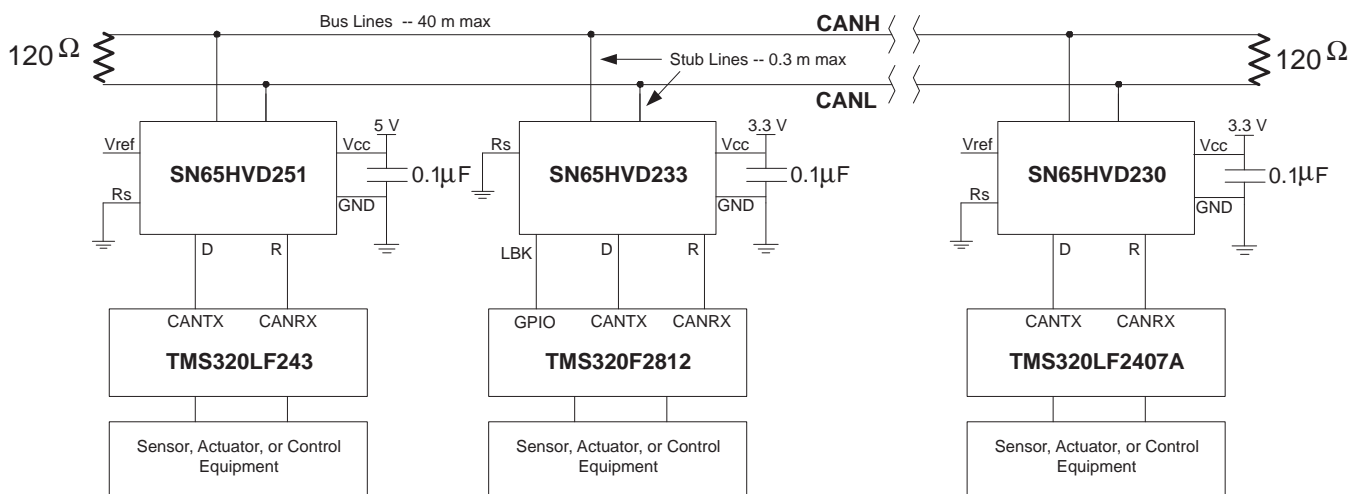

Figure 34. Typical SN65HVD233 Application
The loopback (LBK) function of the SN65HVD233 is enabled with a high-level input to pin 5. This forces the driver into a recessive state and redirects the data (D) input at pin 1 to the received-data (R) output at pin 4. This allows the host controller to input and read back a bit sequence to perform diagnostic routines without disturbing the CAN bus. A typical CAN bus application is displayed in Figure 34.
The High-Speed ISO 11898 Standard specifications are given for a maximum signaling rate of 1 Mbps with a bus length of 40 m and a maximum of 30 nodes. It also recommends a maximum un-terminated stub length of 0.3 m. The cable is specified to be a shielded or unshielded twisted-pair with a 120- Ω characteristic impedance (Z_0). The Standard defines a single line of twisted-pair cable with the network topology as shown in Figure 34. It is terminated at both ends with 120- Ω resistors, which match the characteristic impedance of the line to prevent signal reflections. According to ISO 11898, placing RL on a node should be avoided because the bus lines lose termination if the node is disconnected from the bus.